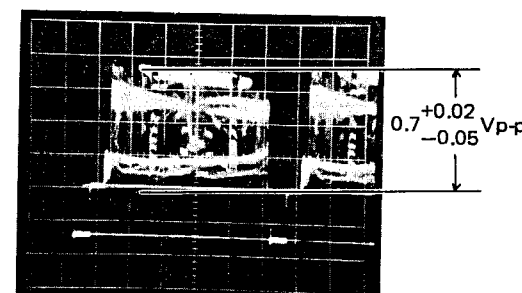

Fig. 10
- Adjust TARGET VR202 so that the video signal level is $0.7^{+0.02}_{-0.05}$ Vp-p. (Fig. 10)